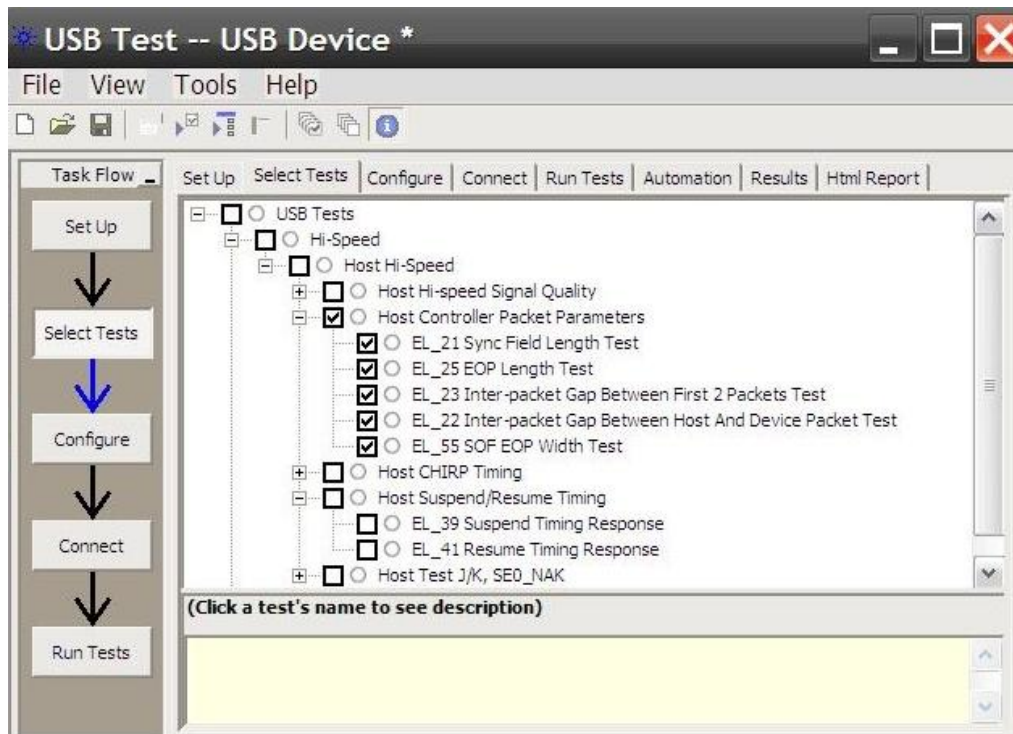

Figure 66. Host HS Packet Parameters Test
1. Select the test items in the USB Automated Test software on the oscilloscope as shown in Figure 66, and make sure you set the Test Type configuration option to Hi-Speed Near End before running the test.